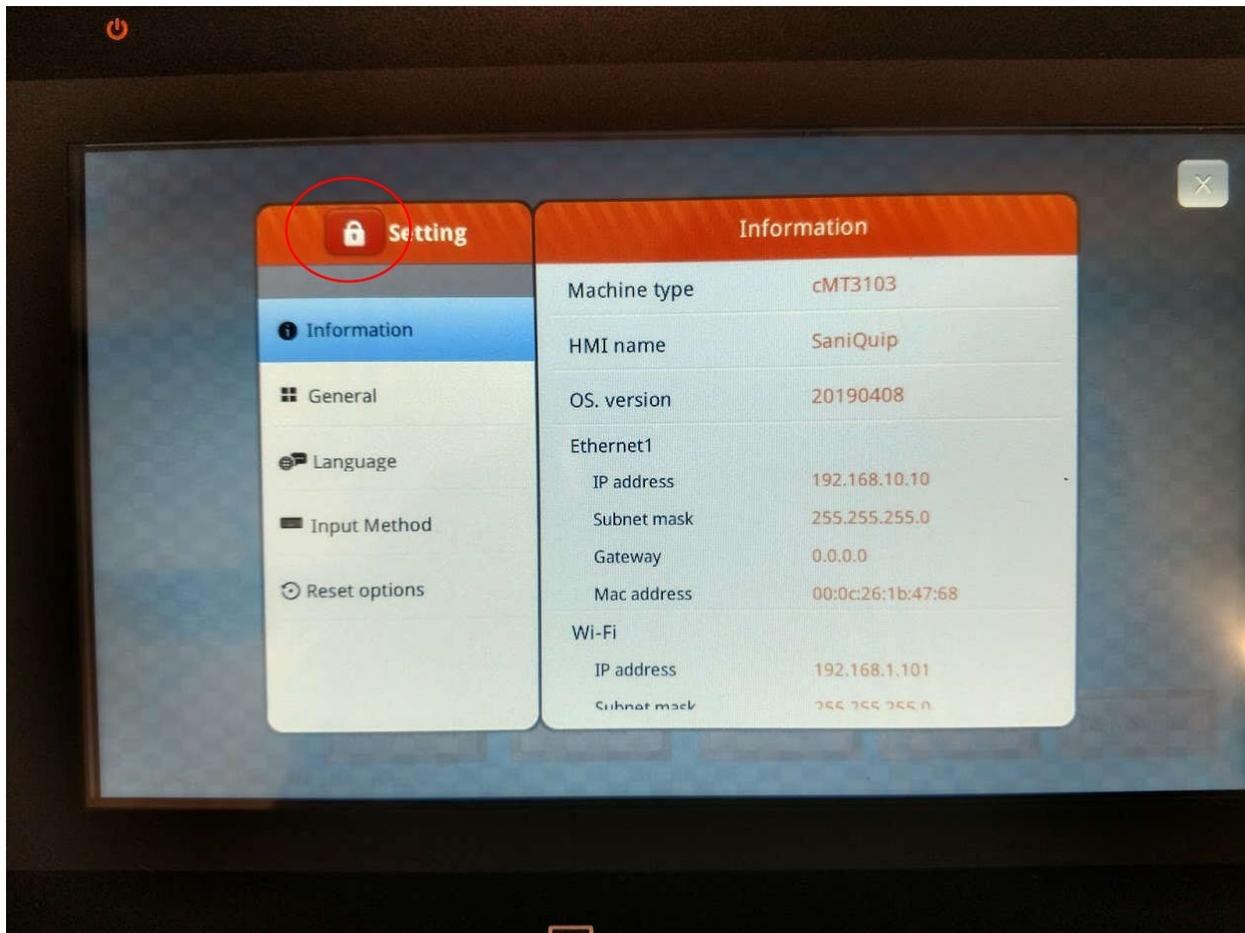

FIG.2 Unlocking the internal menu
2. Once you press this button the menu will pop-up. Press the lock icon next to “setting”. A window will pop-up and prompt you for the password. The default password is: 141516. This is shown in figs. 2 & 3.
8. The IP address recorded will remain the same as long as the unit remains powered on. If the unit is turned off or connected to a different network the IP address may change. You will have to go back to the screen shown in fig.2 to obtain the new IP address.